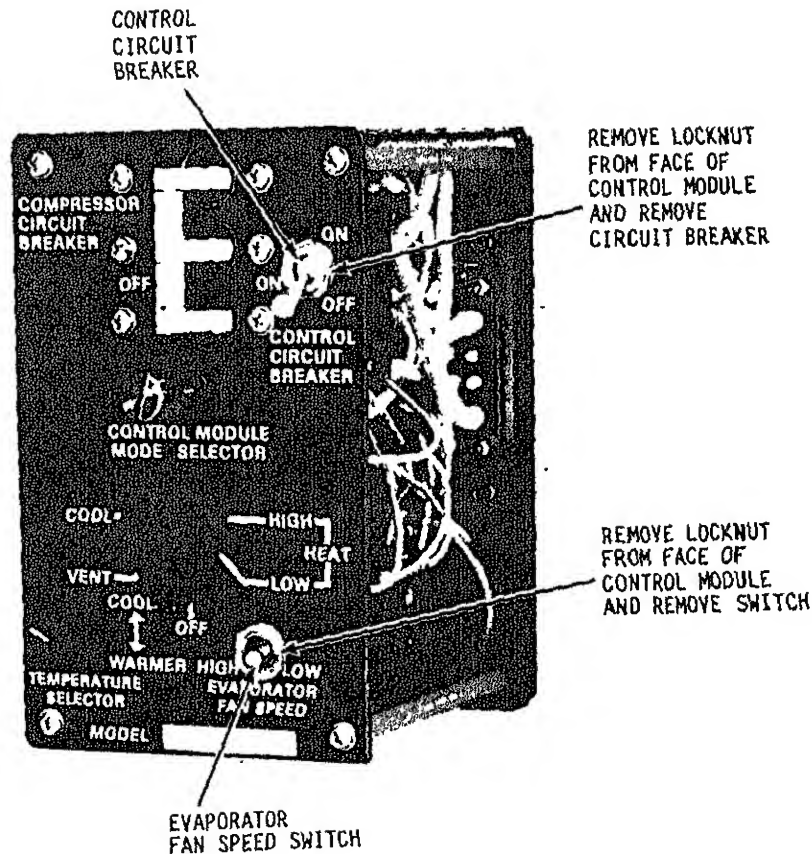

Figure 4-14. Evaporator fan motor speed switch and control circuit breaker, removal and installation
(11) Refer to figure 4-14 and remove the evaporator fan speed switch.
(1) Refer to figure 4-14 and install the evaporator fan speed switch.
(11) Refer to figure 4-14 and remove the control circuit breaker.
(i) Refer to figure 4-14 and install the control circuit breaker.